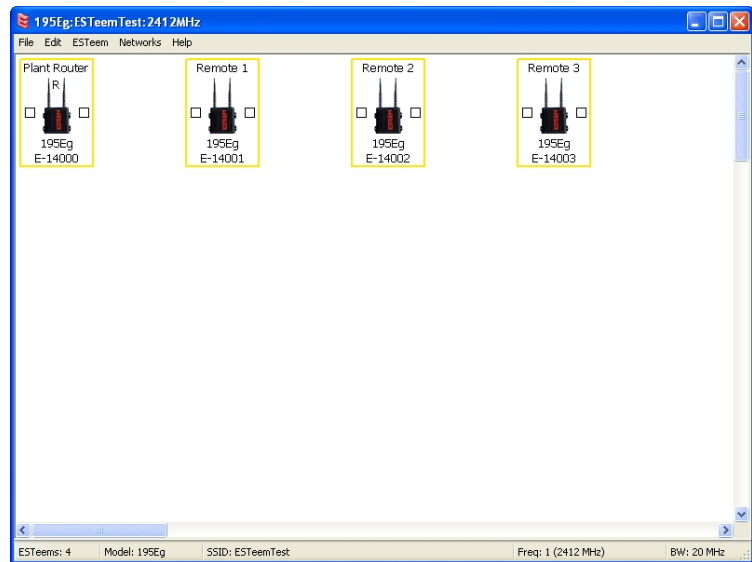

Figure 18: Router Mode Example Modems
1. Using the above procedure for adding ESTeem Model 195Es, add the four ESTeem 195Es for this example and rename by location. Your layout should appear like Figure 18.